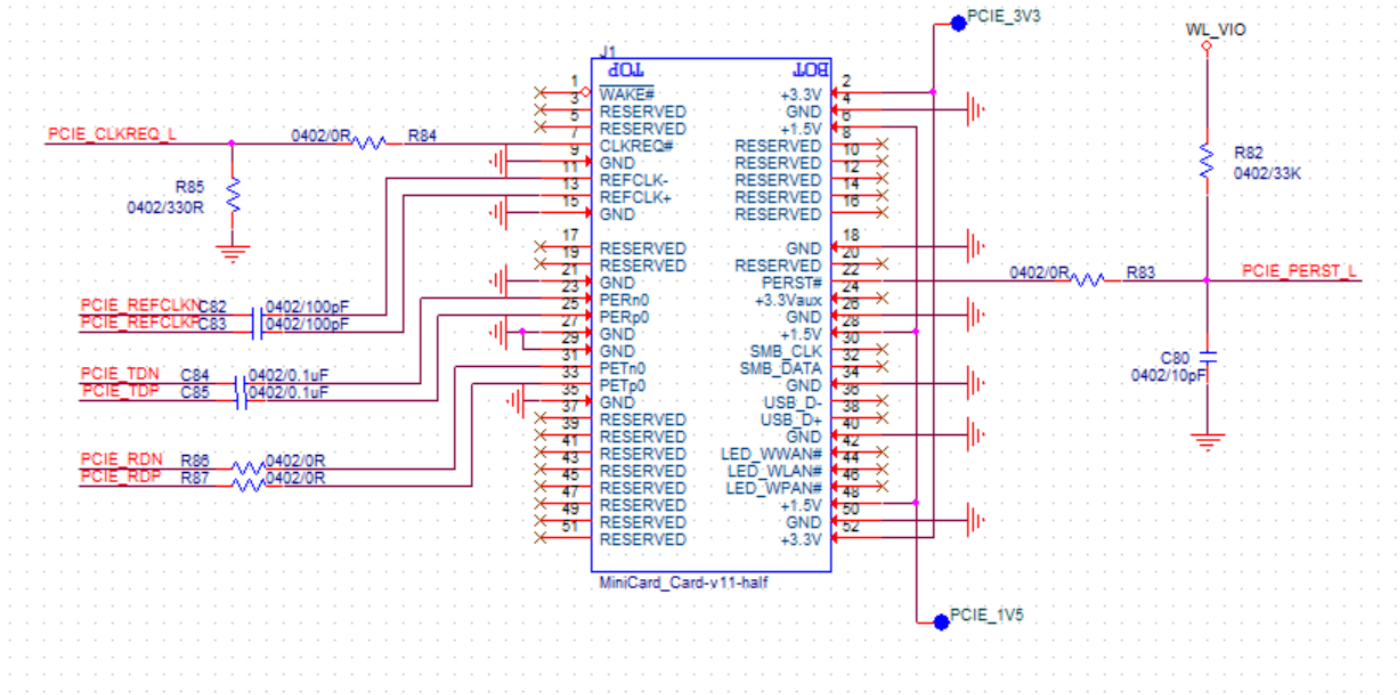

Figure2. WiFi verification connection interface to Host PCIe
- ❖ Refer to Figure2 PCIe pin definition connects the J4 interface of AP6276P/PR3 evaluation board to Host PCIe control interface.